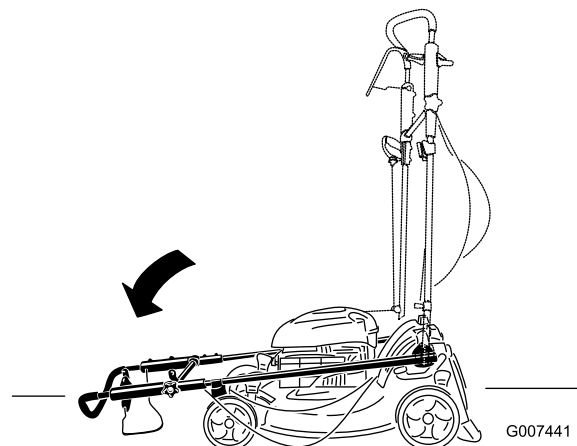

**Figure 58**
2. Move the handle to the upright position (Figure 58).